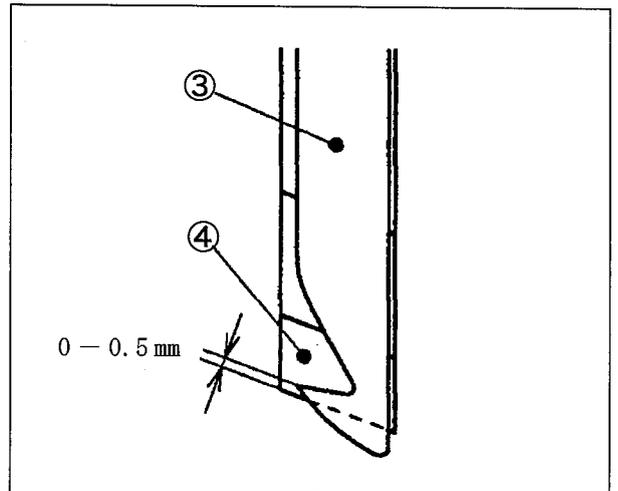

Fig. 51
The engagement between the movable trimming knife ③ and the fixed trimming knife ④ has been adjusted as shown in Fig. 51.